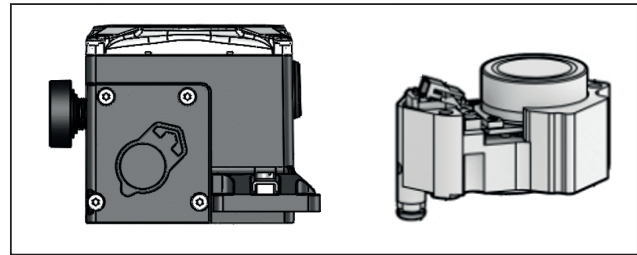

Fig. 74. NDX1510\_ prestage location.
- under prestage cover with prestage symbol (Fig. 74)